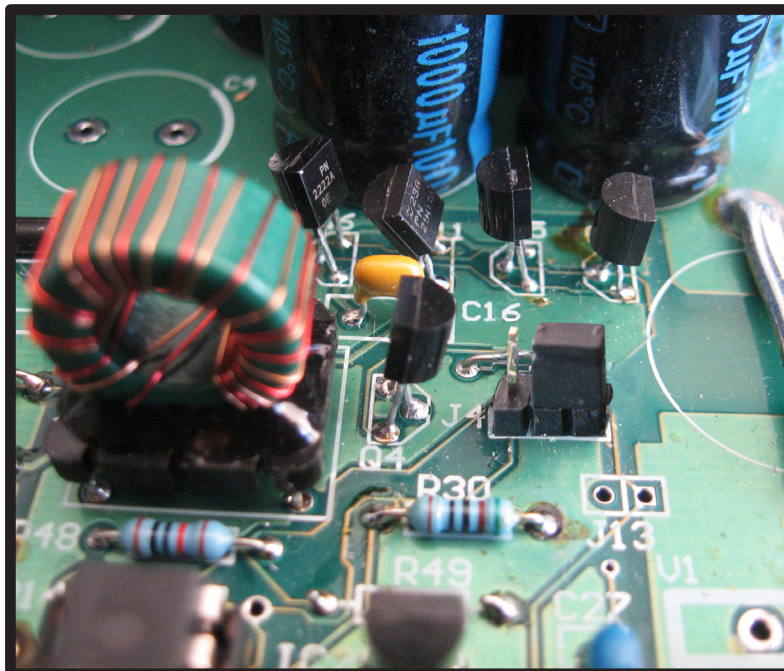

Figure 3 (Above): Sealed Battery Setting
- The above procedure can be repeated to revert to sealed mode – **see Figure 3.**